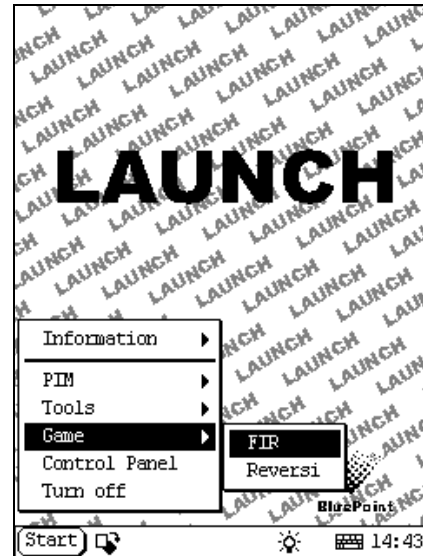

Figure 4-12
- 3) Select the function in the pop-up submenu. (See Figure 4-12)